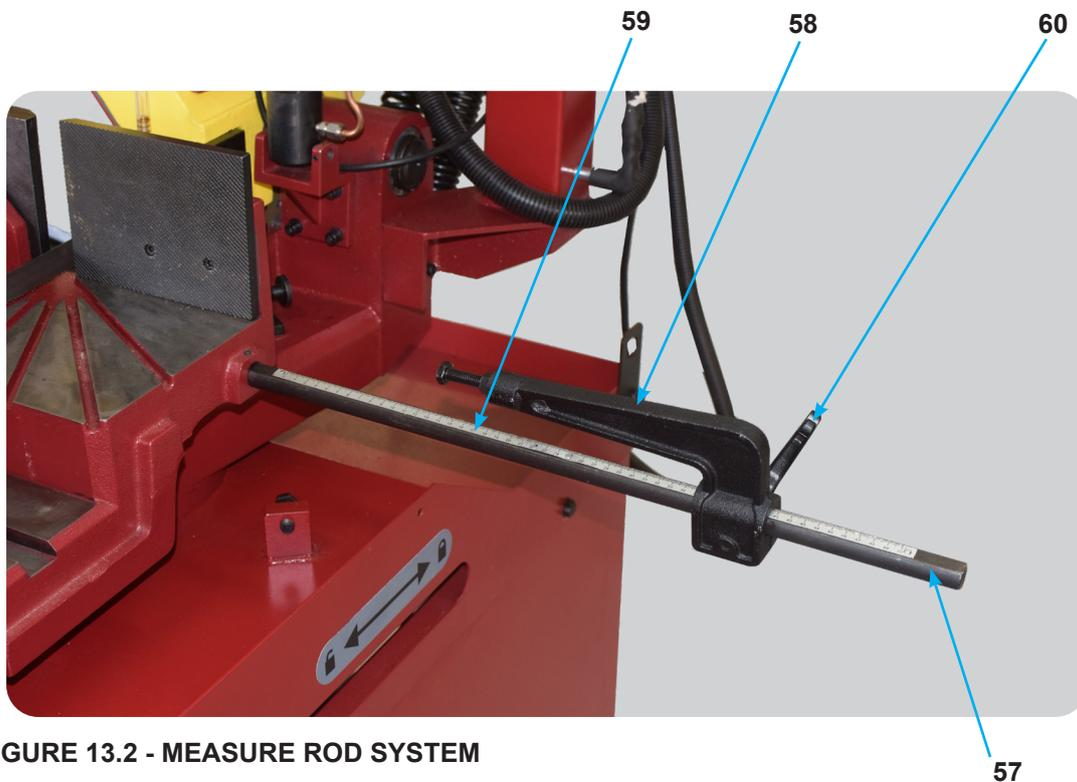

FIGURE 13.2 - MEASURE ROD SYSTEM
- FR1 Overload Relay (thermal protection): Protection of the Motor M1 (11) of the Band Saw Blade (10) against overload;
- EMERGENCY Button (03): Located on the Command Panel (06), for eventual needs of non-normal STOPS. This safety function is monitored by the FS1 Safety Relay;
- Back Cover Protection (18): It has the function of mobile protection of the interior of the Bow (04). When removed, it opens Safety Switch SQ1 (39) disabling the machine's Electrical System. When removed, it opens Safety Switch SQ1 (39) disabling the machine's Electrical System;
- RESET Button SB3 (40) (BLUE): Located on the Command Panel (06), its function is to prevent the unexpected start-up of the machine;
- Safety Relay FS1: Located inside the Electrical Board (41), whose function is to monitor the security devices present;
- PILOT Light HL1 (33): Located on the Command Panel (06). Its function is to indicate that the controls are energized in extra low voltage (24 Vac), making the machine ready to operate;
- Limit Switch SQ3 (35): Its function is to disable the machine's electrical system, in cases of rupture of the Band Saw Blade (10). This function is monitored by the Safety Relay FS1;
- Mobile Guide Fixed Protections (43 and 44): Located and fixed on the Mobile Guide Support (28) (figures 6.2 and 6.4), which can only be removed by using a tool;
- Fixed Guide Protection (44): Located and attached to the Fixed Guide Support (29), which can only be removed by use of a tool.
The **S3715 NG** has a standard Measuring Rod system, consisting of a 500 mm Measuring Rod (57) and a Stopper (58) (figure 13.2), which can be locked by the Stopper Lock Handle (60).